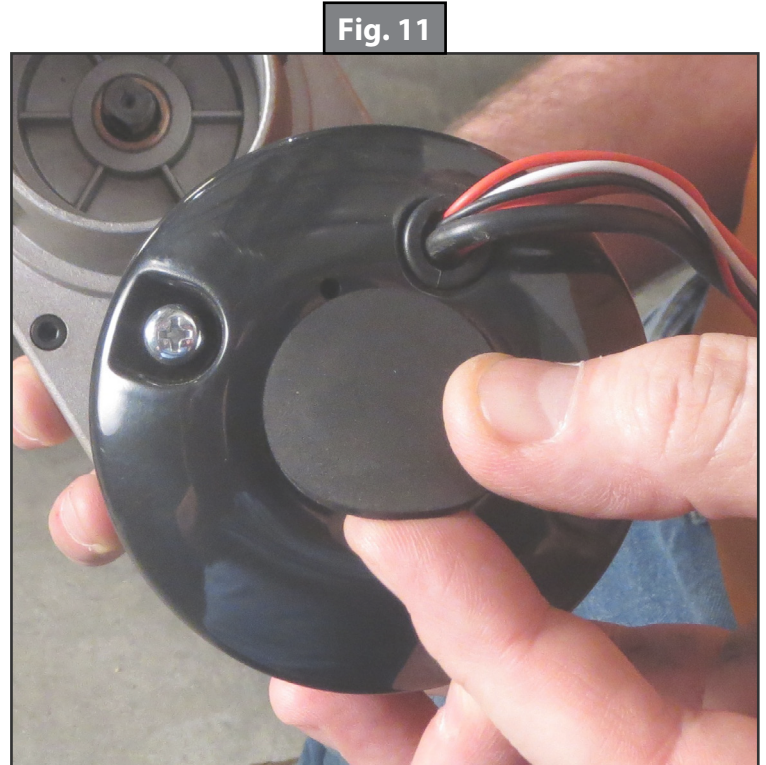

Fig. 11
2. Remove the rubber plug (Fig. 11).